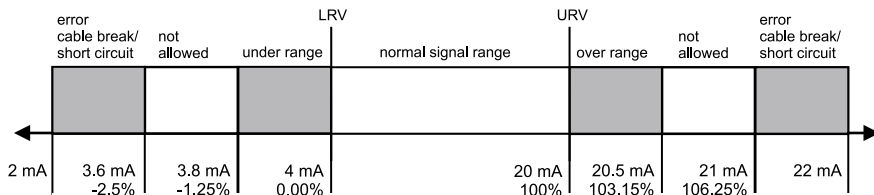

Figure 5-1 Fault finding from the output signal
5.2 Fault Finding (Figure 5-1)
When the measured pressure is under range, the transmitter output continues below the 4.0 mA level until it reaches 3.8 mA (figure 5-1). When the measured pressure is over range, the transmitter output continues above the 20.0 mA level until it reaches 20.5 mA (figure 5-1).